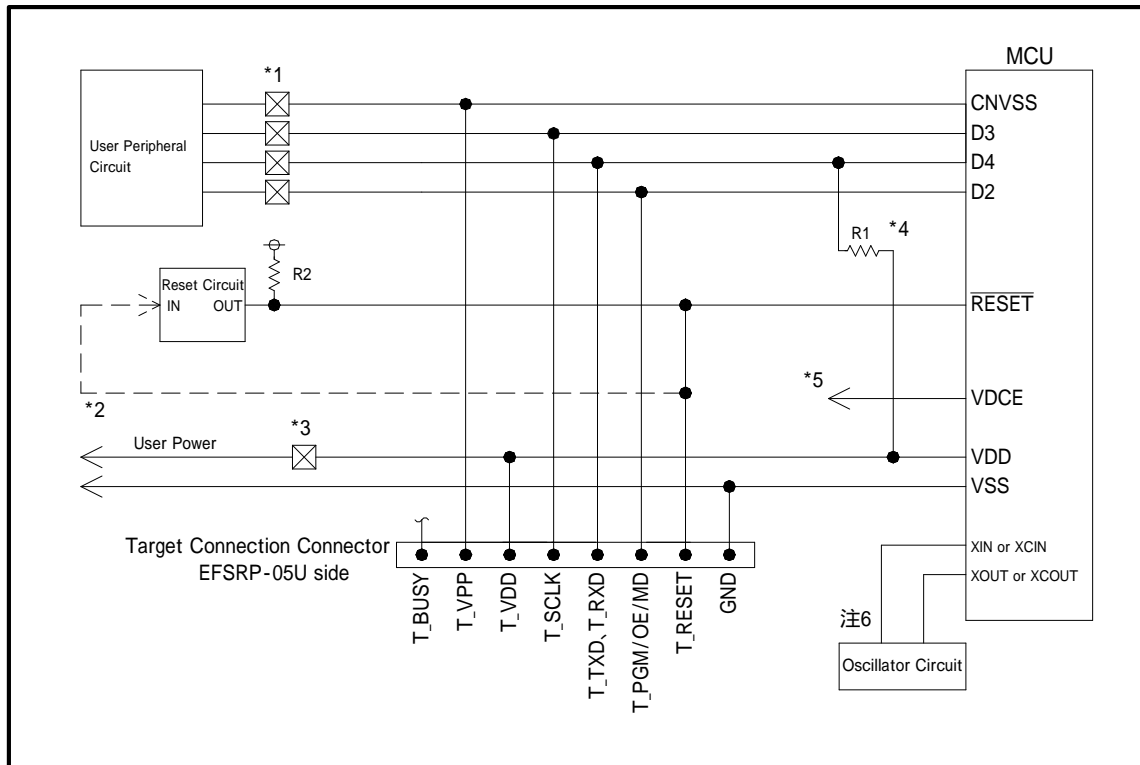

Fig 3.1: Target MCU Peripheral Circuit Example
(1) Fig 3.1 shows an example of target MCU peripheral circuit when using 4559 group.